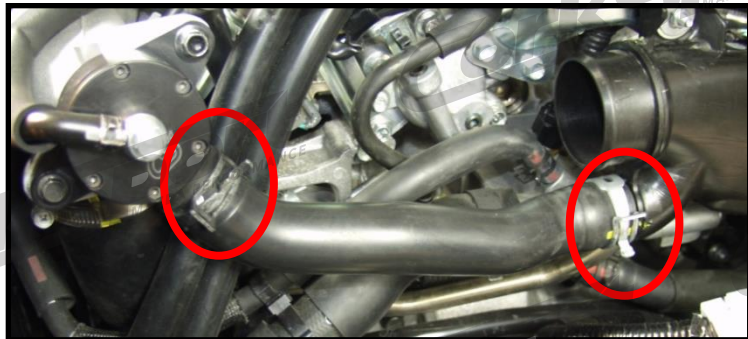
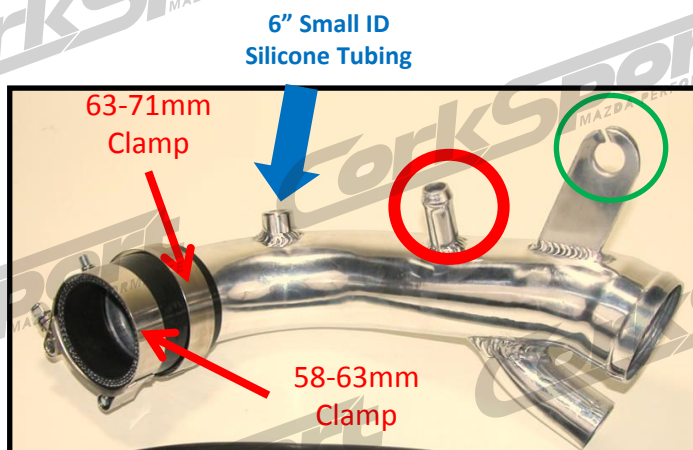

Figure 2e
Figure 3a
- a) Assemble the turbo inlet pipe** (shown in **Figure 3a**). First place the silicone reducer on the end of the TIP. Then, add the 57-65mm T-bolt clamp to the turbo side and the 63-71mm T-bolt clamp to the turbo inlet pipe side.
- c) Add the 6" of silicone tubing to the CorkSport TIP** (Shown with **blue arrow** in **Figure 3a**).
- h) Using pliers, release the hose clamps (red circles in Figure 2e) located on the recirculation valve hose. Remove the hose from the car and save. You will be re-installing this later.
- a) Assemble the turbo inlet pipe (shown in Figure 3a).
- b) Remove the factory mounting grommet and washer from the factory TIP and install it on the CorkSport TIP location (blue on factory TIP shown Figure 2e and circled in green in Figure 3a).
- c) Add the 6" of silicone tubing to the CorkSport TIP (Shown with blue arrow in Figure 3a).